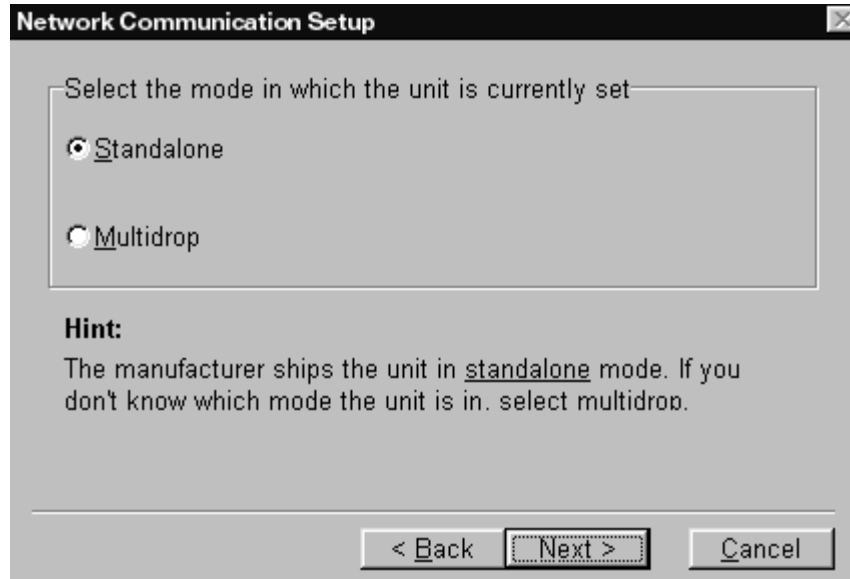

Figure 3-6: Standalone or Multidrop Selection Screen
3. If you have a Marathon sensor attached, and you want to configure or reconfigure the unit, select “Marathon unit and (if used) smart RS-232/RS-485 converter.” Click the Next button and a screen like Figure 3-6 displays.